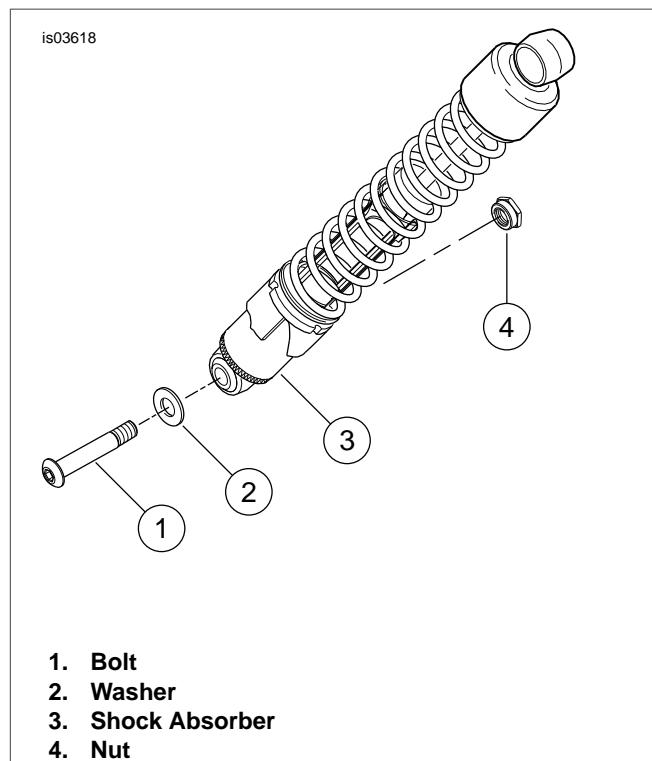

Figure 1. Rear Shock Absorber - Right Side Shown
3. See Figure 1. Disconnect the rear shock absorbers from the swing arm by removing bolt (1), washer (2) and nut (4) from the shock absorber (3). Repeat on opposite side of the motorcycle.
3. Tighten the front screw (10) to 21-27 ft-lbs (28.5-36.6 Nm).
7. See Figure 1. Attach rear shock absorber to swingarm by installing bolt (1), washer (2) and nut (4). Tighten bolt to 45-50 ft-lbs (61.1-67.9 Nm). Repeat step on opposite side of motorcycle.